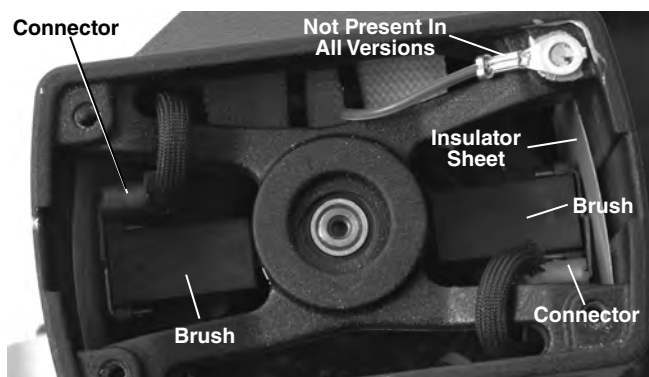

Figure 26 – Brush Placement - Motor Cover Removed
- Using a pair of pliers, pull the motor brush housings straight out. Disconnect the electrical connector. (See *Figure 26*.)